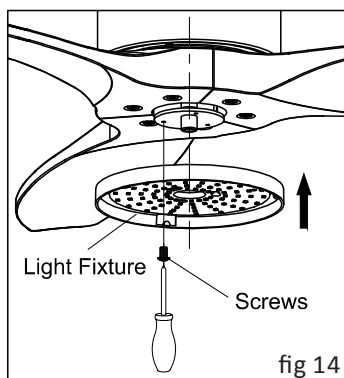

fig 14
- 1) Remove one screw from the motor round piece, unscrew the other two screws out by 3-4mm. (fig 14)
- 2) Attach the lightkit to the fan, fix the first screw back to the hole and tighten all the three screws firmly. (fig 14)